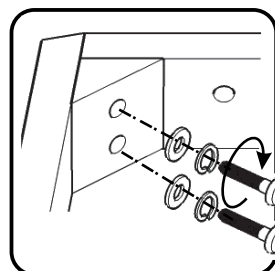

Figure 3
Attach Back Frame (D) to unit with Flat Washers, Spring Washers, Head Cap Bolts (short), Head Cap Bolts (long) and Wood Screws, tightening bolts only halfway. (See Figures 3 and 4)